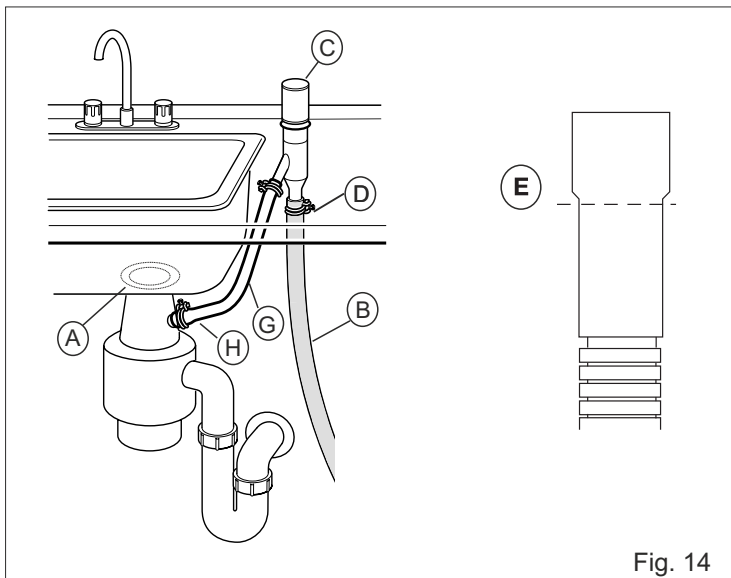

Fig. 14
1. Remove the cover of the waste disposal unit (ref. A Fig. 14).
2. Connect the dishwasher drain hose (ref. B Fig. 14) to the air gap (ref. C Fig. 14) using the wide spring clamp (ref. D Fig. 14); if necessary, cut the end of the dishwasher drain hose (ref. E Fig. 14) (do not cut the corrugated section). If the drain hose has been cut, use a 38 to 50 mm (da 1-1/2" a 2") screw clamp*.
3. To connect the air gap (ref. C Fig. 14) to the waste disposal unit inlet (ref. A Fig 14), use a rubber union* (ref. G Fig 14) with spring or screw clamps* (ref. H Fig. 14).